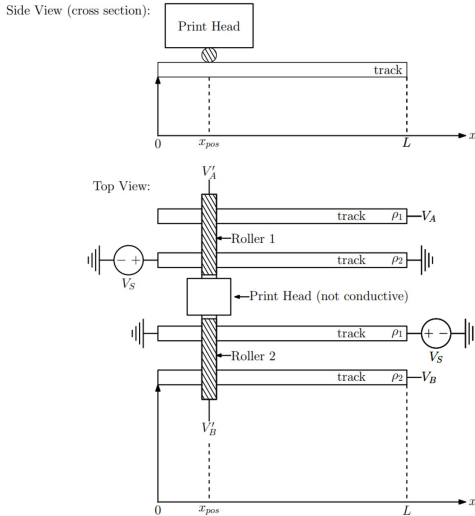

Figure 5.1: 3D printhead position sensor (top and side views)
Figure 5.1 shows your design. The printhead is supported by two rollers that move the head in the x direction. Each roller runs on two conductive tracks with resistivities ρ_1 and ρ_2 , respectively, length L , and cross-sectional area A . The rollers are made of metal electrically connecting the strips. The printhead is an insulator (i.e. nonconductive material) so it can be modeled as an open-circuit. Roller 1 and Roller 2 are disconnected by the non-conductive Print Head. You connect two voltage sources of voltage V_s as shown in Figure 5.1. You then measure voltage $V_{AB} = V_A - V_B$ to sense position x .
- (a) Draw an equivalent circuit diagram of Figure 5.1 consisting of sources, resistors, etc.